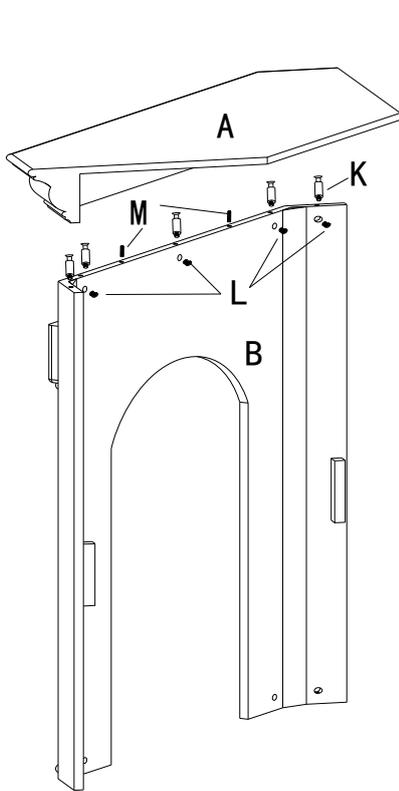

Figure 7
7. Put 5 Cam Dowels (K) and 2 Wood Dowels (M) onto Top (A), and lay Top (A) to Upside Panel (B). Then put 5 Cam Locks (L) onto Upside Panel (B) and fix them with a manual screwdriver. (Figure 7)